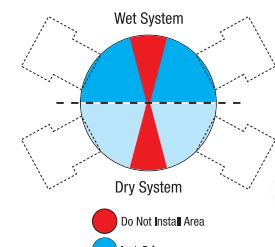

Fig. 1
For wet systems refer to Fig. 1 above the dashed line and position the CORRINSITE plug at the top of the pipe at a 45° angle between 1 and 3 or 9 and 11 o'clock.
For dry systems refer to Fig. 1 below the dashed line and position the CORRINSITE plug at the bottom of the pipe at a 45° angle between 3 and 5 or 7 and 9 o'clock.
2. Install the M7700 with appropriately sized couplings. Before tightening couplings orient the monitor's plug port to the desired position (Fig. 1). Then, tighten couplings to manufacturer's specifications.